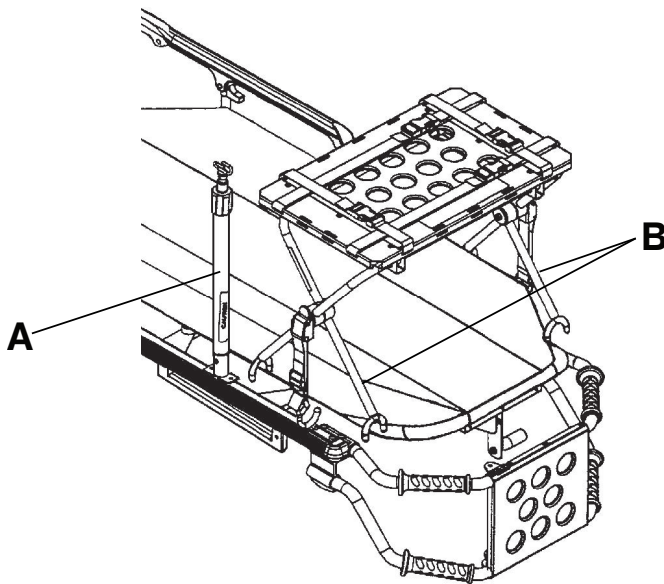

**Figure 16 – Stored position**
1. Place the defibrillator platform in the stored position (Figure 16).